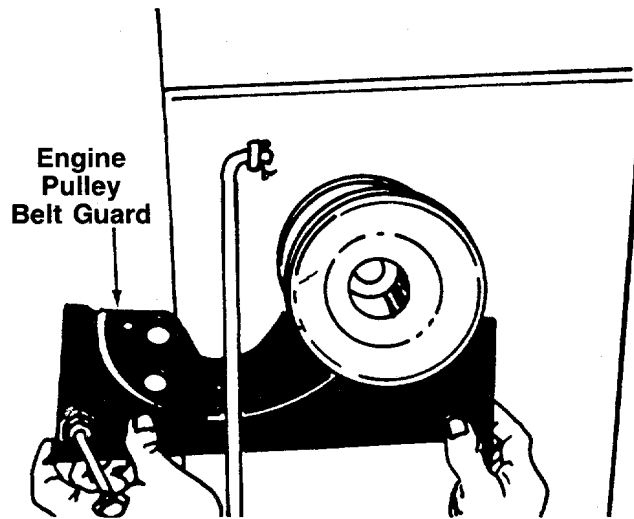

FIGURE 21.
6. Remove the engine pulley belt guard by slipping it back and to the right. See figure 21.